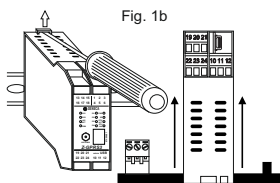

Fig. 1b
- 1) Move the two hooks on the back of the module outwards as illustrated in fig. 1b.
As shown in fig. 1b: